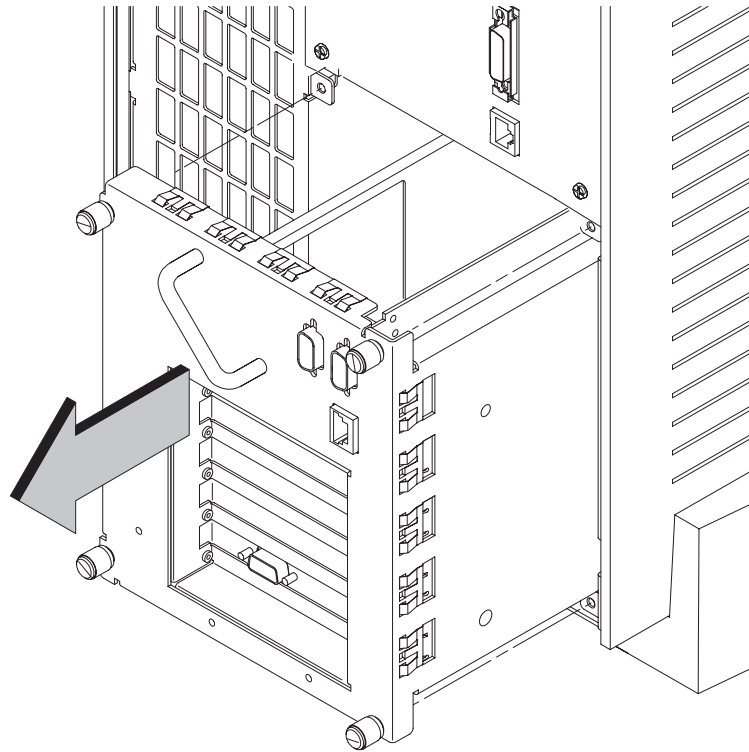

Figure B-34. Removing the PCI/EISA Assembly
1. Working from the rear of the workstation, unscrew the four captive screws and pull the PCI/EISA Assembly straight out using the handle. See Figure B-34.